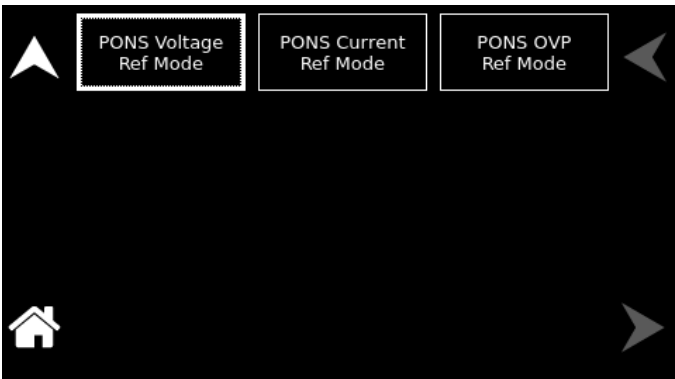
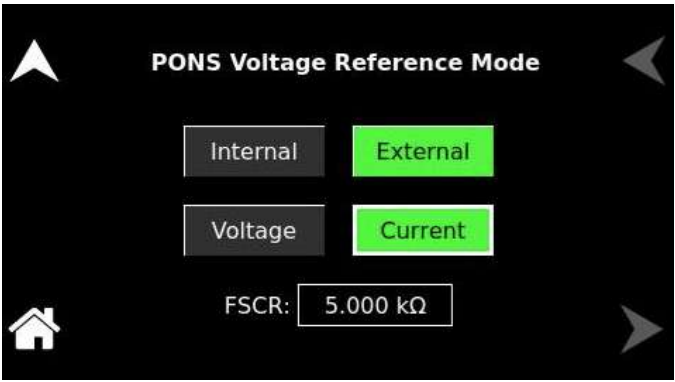

Figure 8-152. PONS Configure Analog Mode Settings
Figure 8-156. PONS Voltage Reference Mode – Resistive
|       | Sets parameter values and controls operation of the PONS Analog Programming interface. Refer to Figure 8-152. |
- **PONS Voltage Ref Mode** : Configures the PONS Voltage Reference Mode, refer to Figure 8-152. When the PONS Voltage Reference Mode is set to External, the Voltage setting field on the Dashboard screen and the ‘Voltage’ in the Output Program screen will be disabled, and these Voltage fields will display as ‘EXT’. Refer to Figure 8-153 to Figure 8-156.
When Voltage Reference Mode is selected as Current, FSCR (Full Scale Current Resistance) unit will be kΩ (k Ohms). Refer to Figure 8-156.
- **PONS Current Ref Mode:** Configures the PONS Current Reference Mode, refer to Figure 8-152. When the PONS Current Reference Mode is set to External, the Voltage setting field on the Dashboard screen and the 'Voltage' option in the Output Program screen will be disabled, and these Voltage fields will display as 'EXT'. Refer to Figure 8-157.